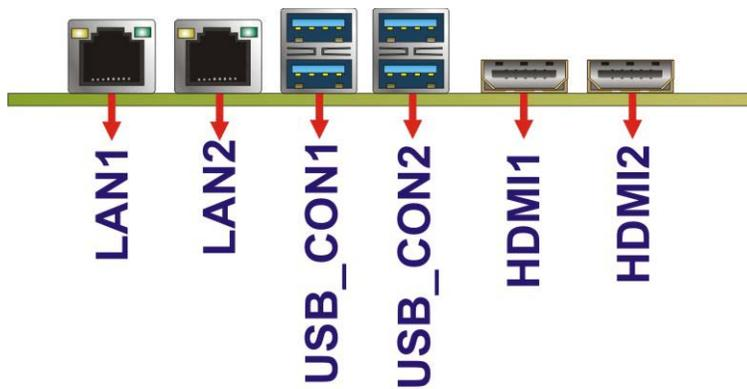

Figure 4-29: External Peripheral Interface Connector
Figure 4-29 shows the ECN-360A-ULT3 external peripheral interface connector (EPIC) panel. The EPIC panel consists of the following:
CN Location: See **Figure 4-29**
- CN Location: See **Figure 4-29**